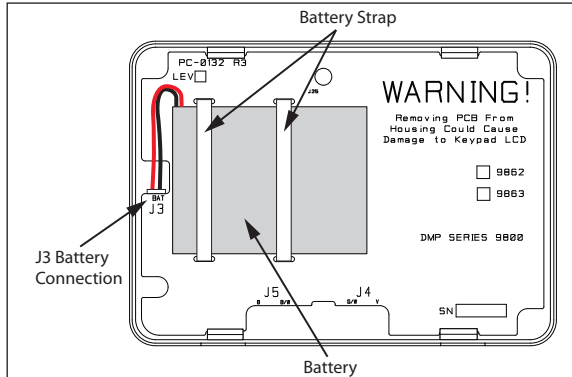

Figure 11: Battery Connection
3. Observe polarity and connect the battery lead connector to the keypad J3 battery header. See Figure 11.